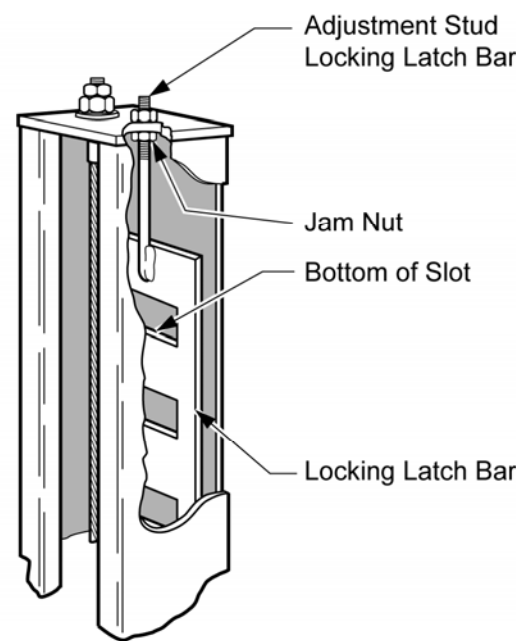

Fig. 11
- g. Adjust locking latch bar adjusting nut so that the bottom of the topmost latch bar slot is at least 2" below locking latch, Fig. 11. After adjustment, tighten jam nut underneath column top plate, Fig. 11.